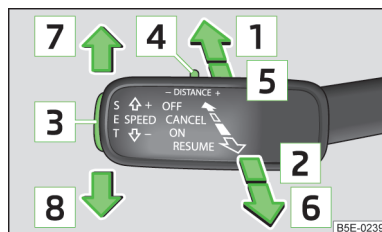

Fig. 138
Stop the car, switch off the engine and clean the sensor or eliminate the obstacle causing the lack of "visibility". Should the ACC still be unavailable after the engine is restarted, **OFF** » Fig. 138 on page 151 push the lever into position. Seek help from a specialist garage.
The ACC can be controlled and the settings adjusted using the control lever » Fig. 138 on page 151 or in the infotainment » *infotainment manual*, chapter *Vehicle settings* (CAR key).
If the lever is set » Fig. 138 from the position **OFF** directly into the sprung position **RESUME**, the current speed is stored and the control is started.
The control be started with the key **SET** or by adjusting the lever into the sprung position **RESUME** » Fig. 138 on page 151.
- Set the lever into the sprung position **CANCEL** » Fig. 138 on page 151.
The proximity to the vehicle ahead can be set with the lever » Fig. 138 on page 151 or in the Infotainment » *infotainment manual*, chapter *Vehicle settings (CAR button)* .
➤ Set the switch **DISTANCE** in the sprung position  or  » Fig. 138 on page 151.
In such cases, control should be disabled by accelerating, applying the brake or pressing the button on the operating lever . **CANCEL** » Fig. 138 on page 151 .
Acceleration can be cancelled at any time by touch on the brake pedal or pressing the button **CANCEL** on the control lever » Fig. 138 on page 151.